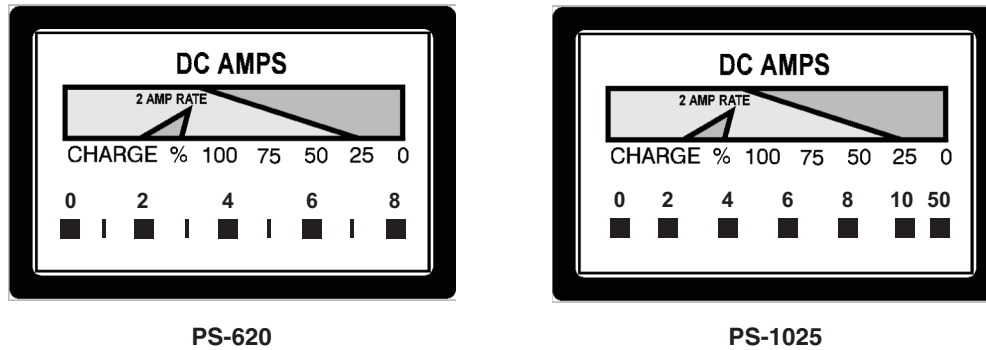

FIGURE 4: METERS
AMMETER (See FIGURE 4)
8. Continue charging battery until charger's ammeter needle shows half the rate of charge. (See FIGURE 4)
10. Remove charger clamps from (1) chassis and (2) battery post, in that order.